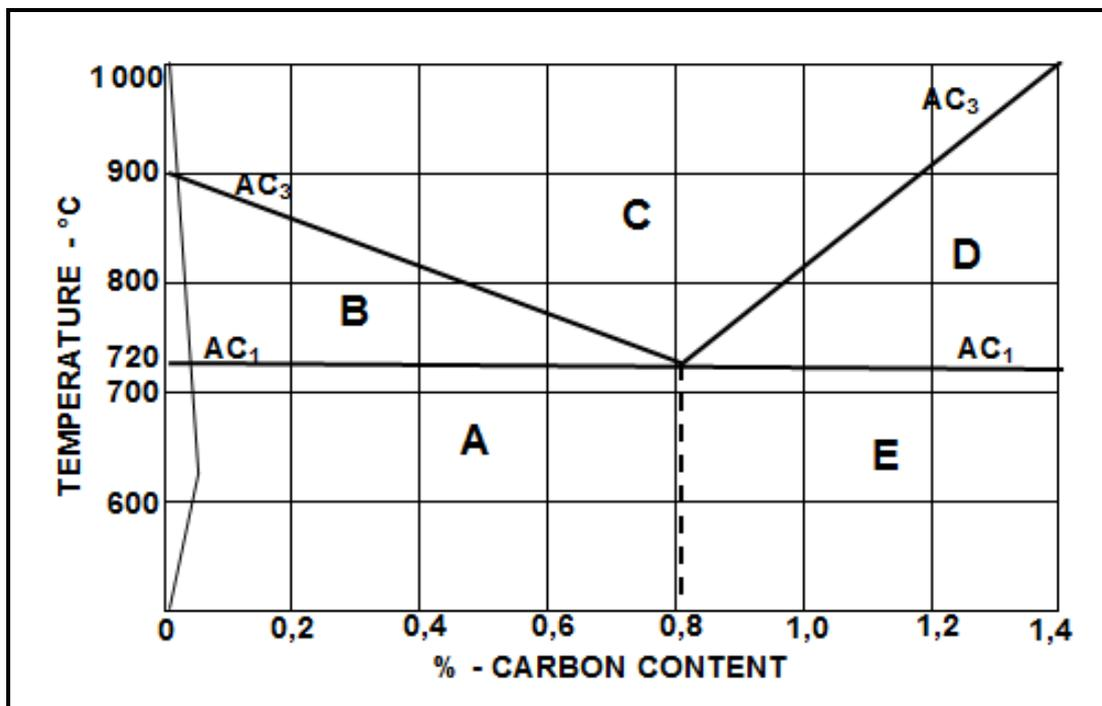

FIGURE 9.5
9.5 FIGURE 9.5 below shows the iron-carbon equilibrium diagram. Label the structures according to the letters (A–E).